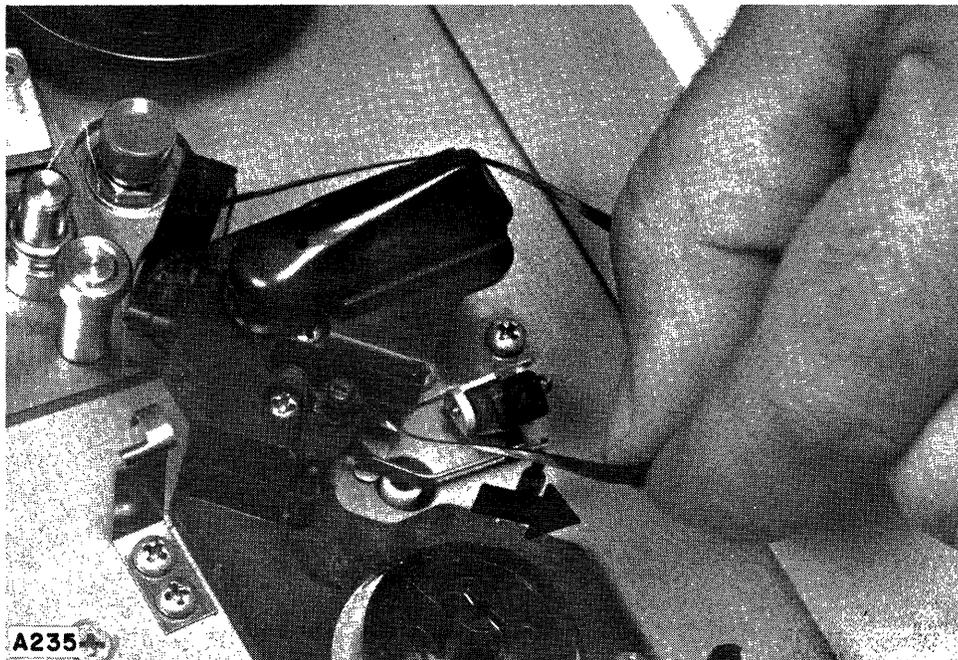

Figure 4-8. Moving the Clip into the Clip Channel
- j. Move the leader in a counterclockwise direction as shown in figure 4-8 but with the locking lever in the lock position. Continue to gently pull the leader until the leader clip enters the clip channel and will go no further, as shown in figure 4-8.